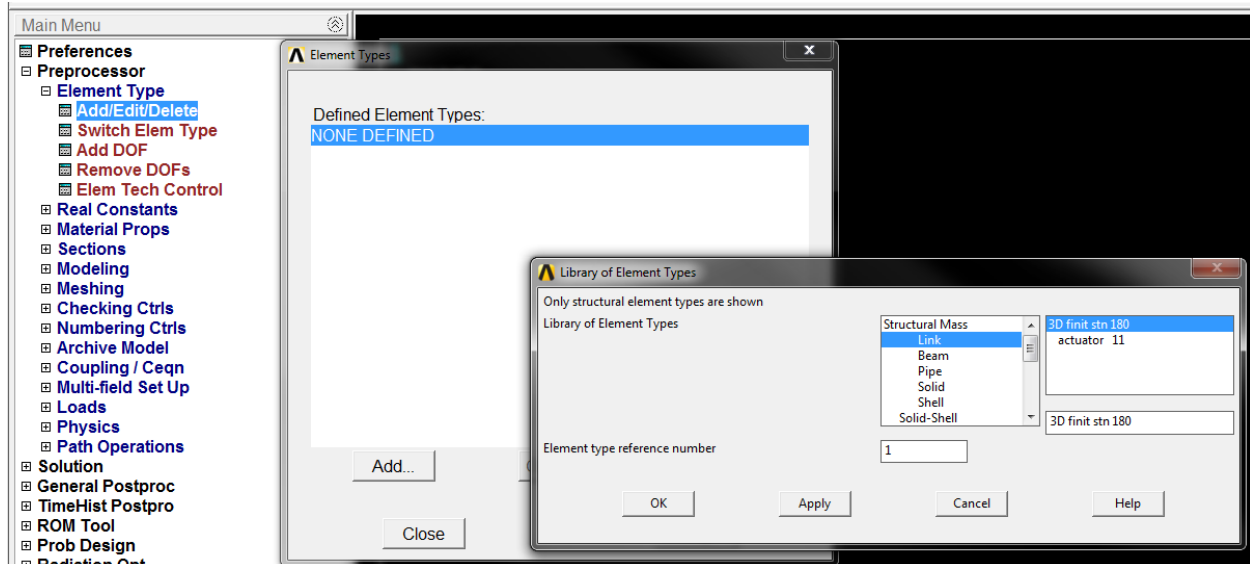

Figure 3: Element Type
- Expand the menu tree by clicking **(+)Preprocessor**, and then **(+)Element Type** in the second tree level. Select the **Add/Edit/Delete** command, as illustrated in Figure 3.